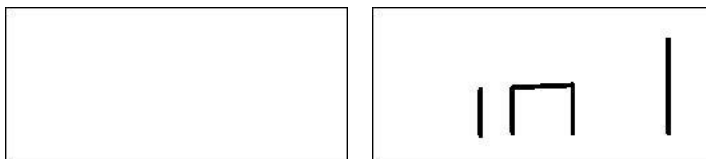

Fig. F6.3 Input of the weight W1 position
3. If there is an imbalance on the external side instead, the machine will display the message shown in the figure F6.3.